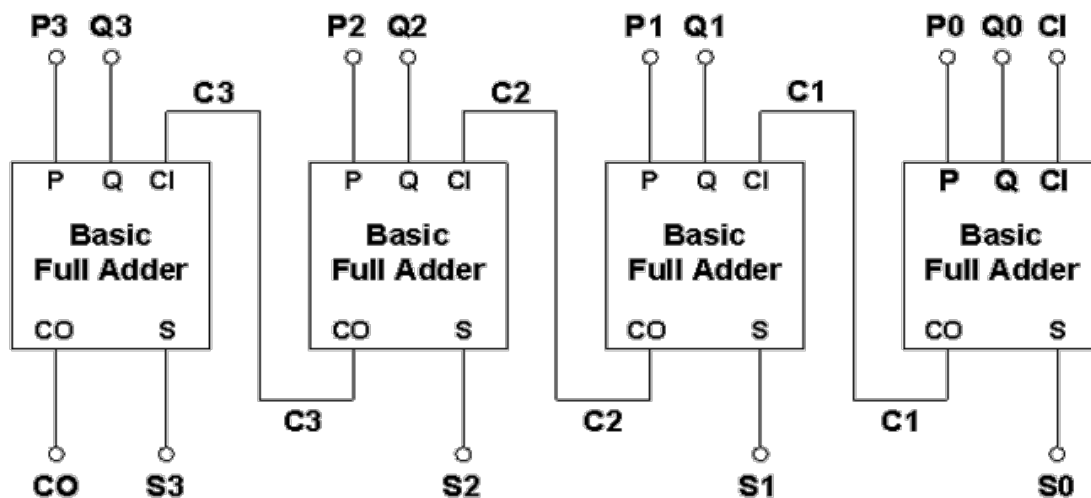

Figure 1. Example: 4-bit parallel adder architecture
1. [10 pts] Pipeline architecture of your 12-bit design, similar to Fig. 1 of 4-bit pipeline adder architecture, except there are **2 pipeline stages**.